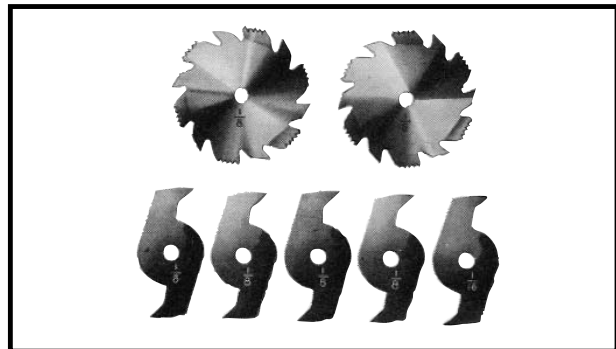
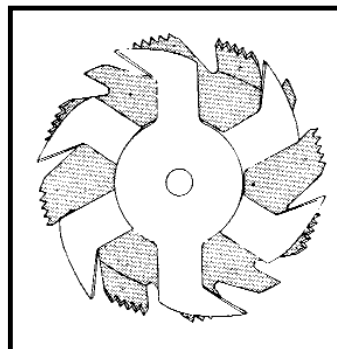
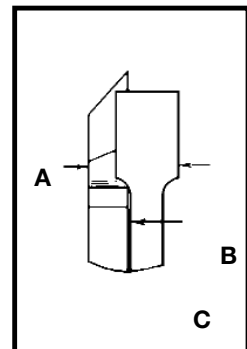

Fig. 53
Fig. 54
Fig. 55
1. Dadoing is cutting a rabbet or wide groove into the work. Most dado head sets are made up of two outside saws and four or five inside cutters, (Fig. 53). Various combinations of saws and cutters are used to cut grooves from 1/8 in. to 13/16 in. for use in shelving, making joints, tenoning, grooving, etc. The cutters are heavily swaged and must be arranged so that this heavy portion falls in the gullets of the outside saws, as shown in Fig. 54. The saw and cutter overlap is shown in Fig. 55, (A) being the outside saw, (B) an inside cutter, and (C) a paper washer or washers, used as needed to control the exact width of groove. A 1/4 in. groove is cut by using the two outside saws. The teeth of the saws should be positioned so that the raker on one saw is beside the cutting teeth on the other saw.